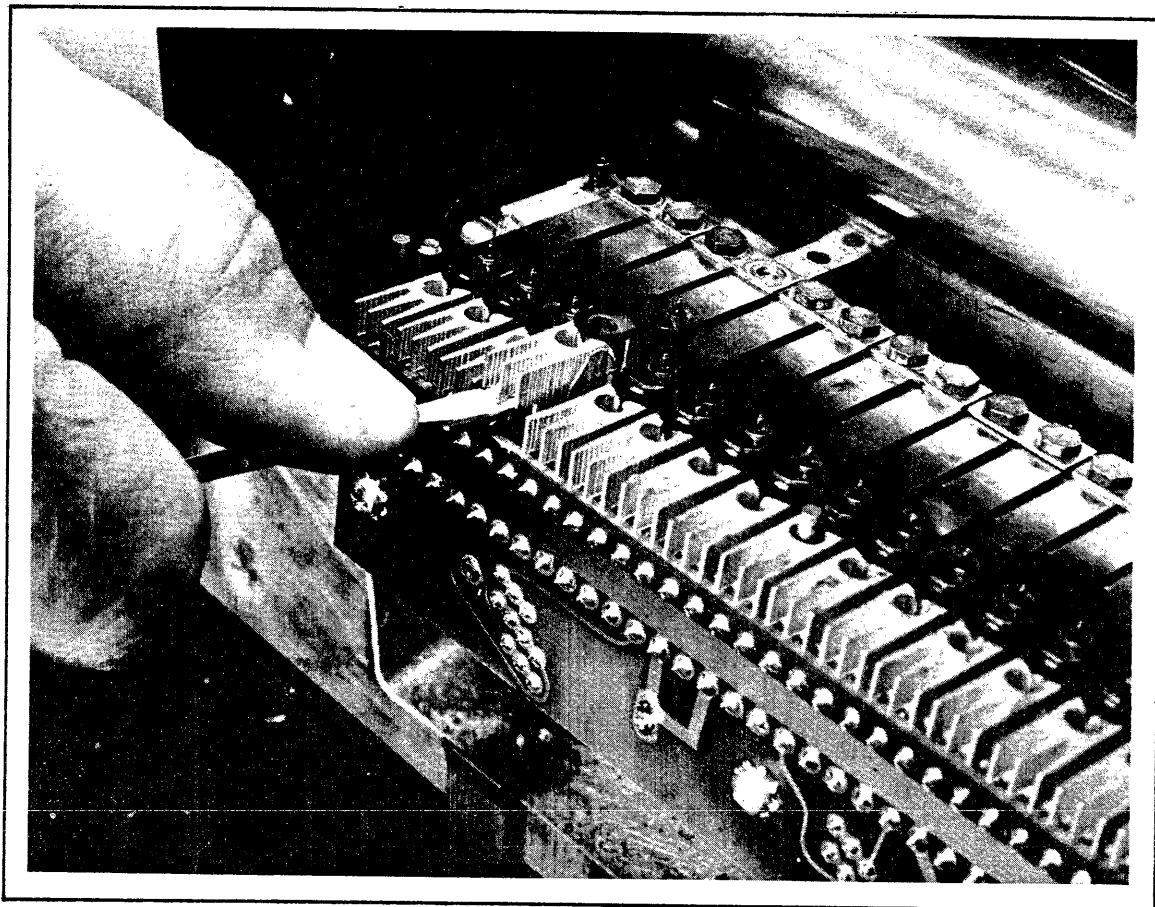

Figure 54 Removing Hammer Coil
- f. Insert a narrow screwdriver between the leads (figure 54), and under the base, of the failed coil. Gently pry upwards to lift coil and extract leads from printed circuit board connector. Use long-nose pliers, if necessary, to pry leads, a little at a time, out of the connector. Remove the coil, and discard.